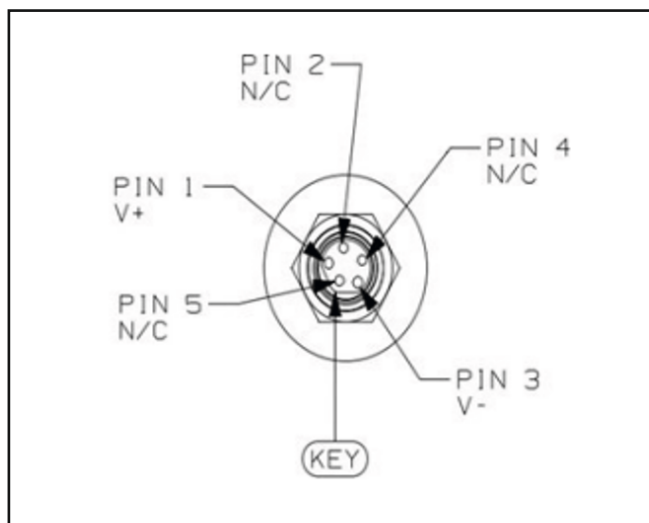

Figure 1-10: 5 Pin M8 Male Nano-for Legacy devices
- 5 pin M8 Male Nano Change Connector (Figure 1-10)